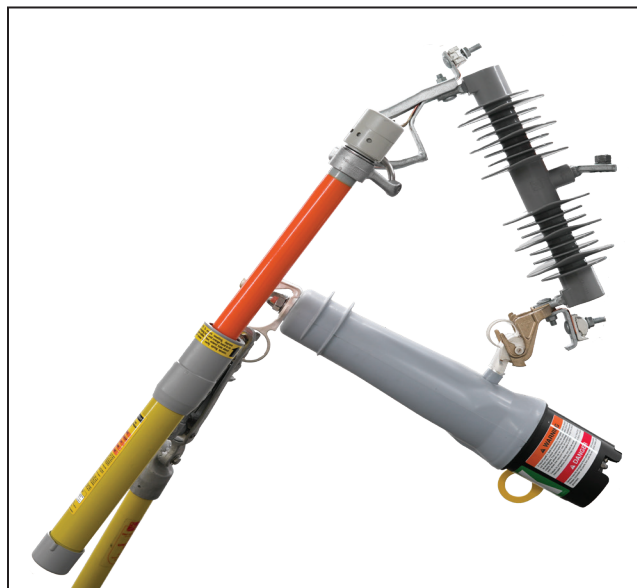

Figure 20. The Loadbuster tool attached to a VacuFuse II Self-Resetting Interrupter in the Open position.
STEP 4. To open the circuit, operate the Loadbuster tool with a firm, steady pull until it is extended to its maximum length. A downward pull to open the VacuFuse II Self-Resetting Interrupter extends the Loadbuster tool and charges the tool's internal spring. At a predetermined point in the opening stroke, a trigger inside the tool will trip, releasing the charged spring, separating the internal contacts and interrupting the circuit. See Figure 20.